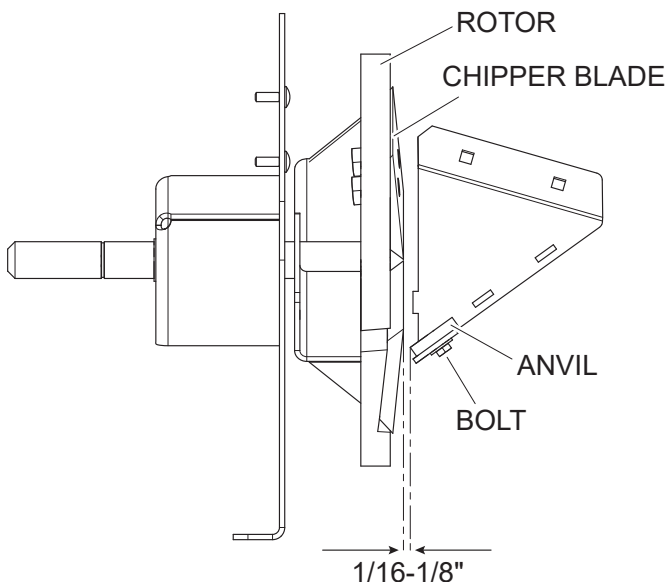

Figure 5.6, Chipper Blade/Anvil Clearance
2. Measure the amount of clearance between the chipping blade and chipper anvil from inside of the chipper housing. The minimum distance between the chipping blade and the chipping anvil should be 1/16" (Figure 5.6).